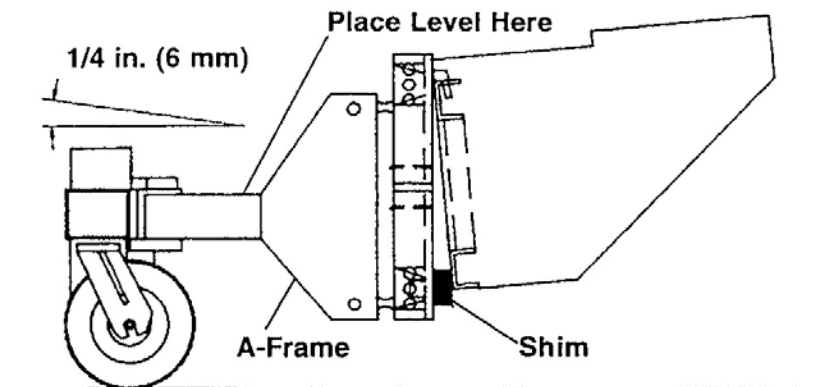

Figure 3-40. Swing-frame leveling.
1. Place a level on top of one of the swing frame tubes (fig. 3-40).